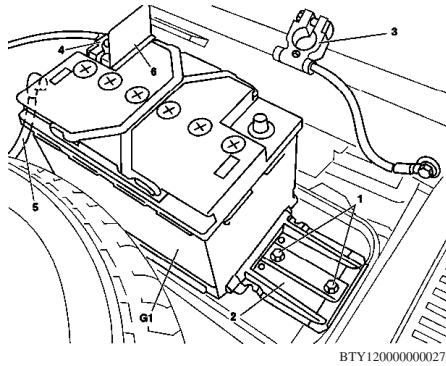

Fig. 1 Battery removal
6. Remove mounting bolt (1) and battery hold down (2), **Fig. 1**.
7. Disconnect ground cable (3) at battery, **Fig. 1**.
8. Disconnect positive cable (4), **Fig. 1**.
9. Detach vent pipe (5) at battery, **Fig. 1**.
2. Attach vent pipe (5) at battery, **Fig. 1**.
3. Connect positive cable (4), **Fig. 1**.
4. Connect ground cable (3) at battery, **Fig. 1**.
5. Install mounting bolt (1) and battery hold down (2), **Fig. 1**.